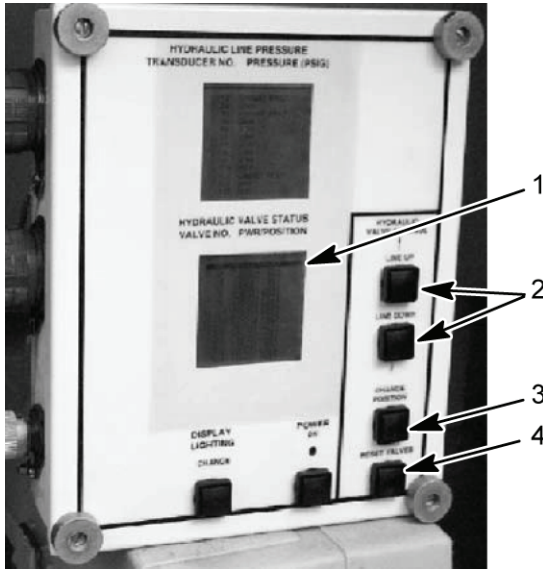

Figure 26. HDC Control Box
- Reset all HDC solenoid valves by selecting the RESET VALVES button (Figure 26, item 4) on the HDC control box.
- Close main ejector valve (V1) on HDC primary manifold. Using LINE UP or LINE DOWN button (Figure 26, item 2), select V1 on the HDC display (Figure 26, item 1). Close V1 on the HDC display (Figure 26, item 1), by selecting the CHANGE POSITION button (Figure 26, item 3) on the HDC control box.